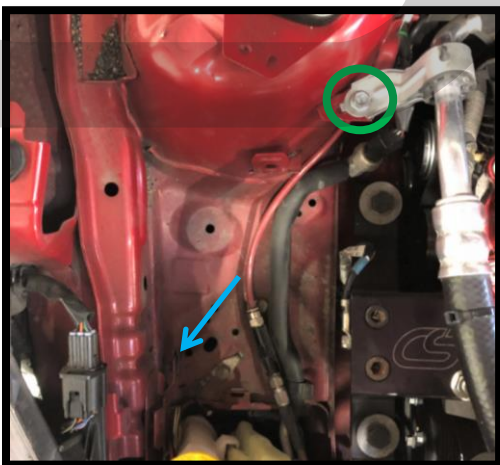

Figure 2a
- a) Remove the 10mm bolt that attaches the A/C line to the strut tower. Shown **circled in green** in **Figure 2a**. Some Mazda 3 will not have the A/C line mounted in this location and no bolt will need to be removed.
- b) Install the supplied U-nut onto the tab with the hole near the OEM mounting tab. Location shown with **blue arrow** in **Figure 2a** and with **blue circle** in **Figure 2b**. Ensure the U-nut matches the alignment shown in **Figure 2b** and the center of the U-nut is aligned with the hole.